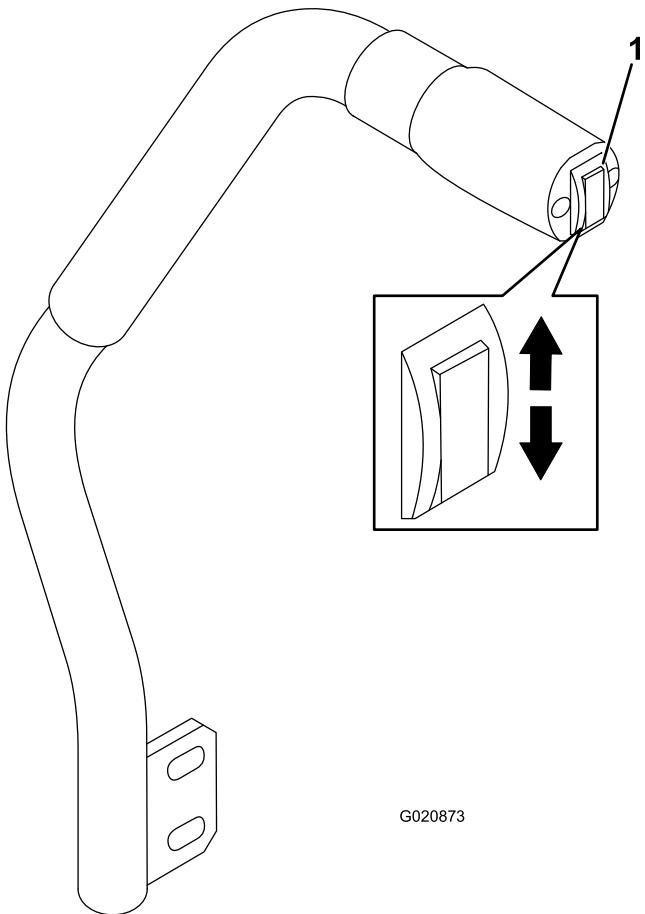

Figure 19
The deck-lift switch raises and lowers the mower deck (Figure 19).
- To lower the mower deck, push the deck-lift switch down (Figure 19).
- To raise the mover deck, push the deck-lift switch up (Figure 19).